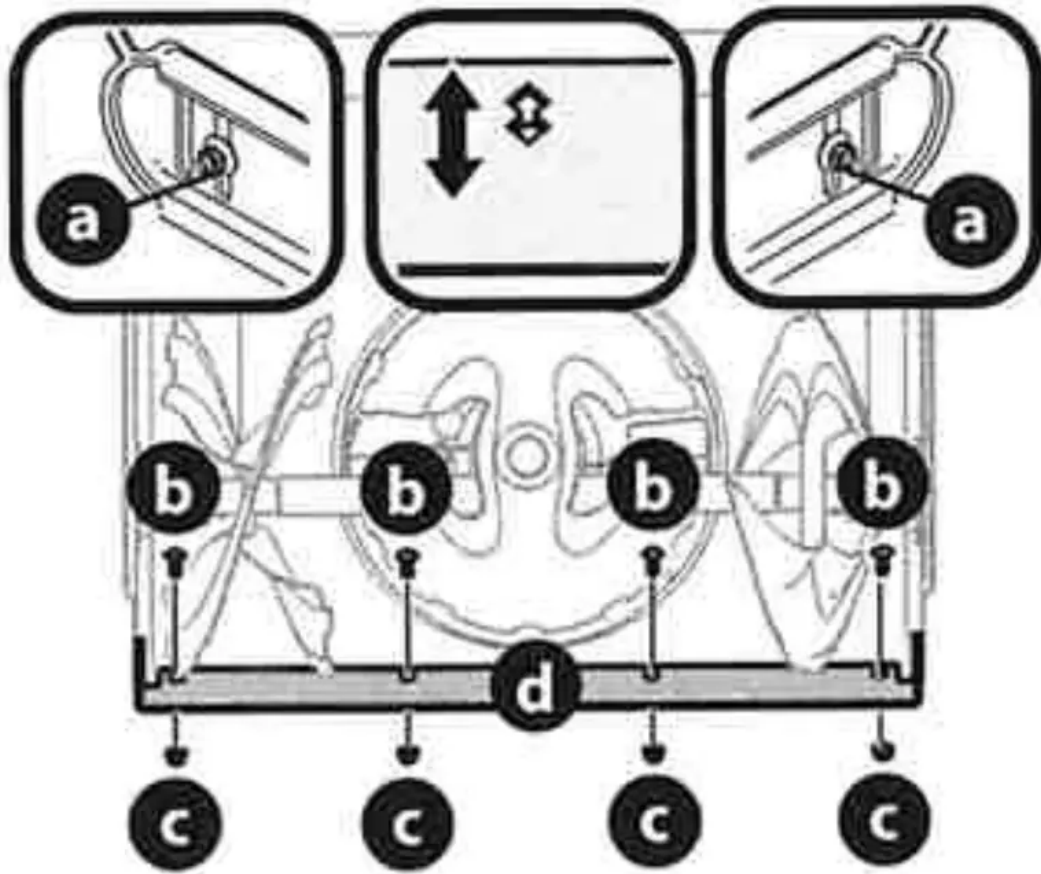

Figure 53
(Figure 53).
4. Adjust the shave plate to one of 2 mounting positions. Reinstall and securely tighten all carriage bolts, nuts and skid shoe hardware from Step 3 (Figure 53).